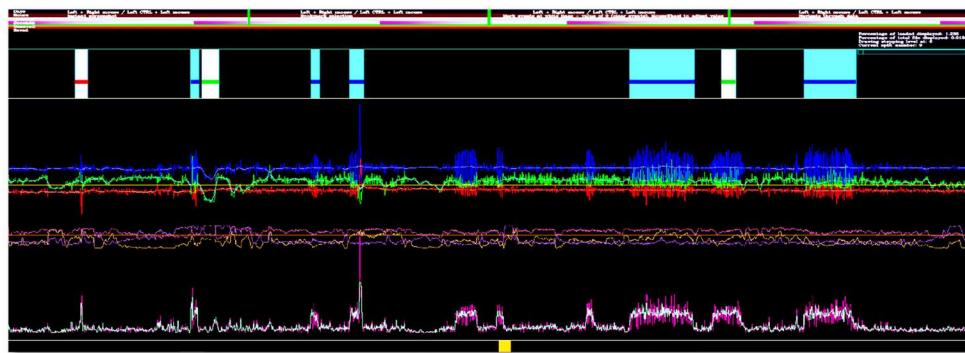

Figure 6.8 Bookmarks with marked events, adjusted visual heights and custom colours by category
Behaviour ethogram files only work when the format matches that shown in Figure 6.8 i.e. *DD/MM/YYYY* and *HH:MM:SS*, as DDMT looks to specific cell positions for the information it requires to create bookmarks. The cells shown in grey in Figure 6.8 should be copied exactly in the new file, in terms of both cell content and position. The **Red / Green / Blue** value columns (C-E) can be any value from 0-255 to allow custom colours for each category. The **type** column (A) allows category labels to be named, which are applied adopted by the category name lists in DDMT.